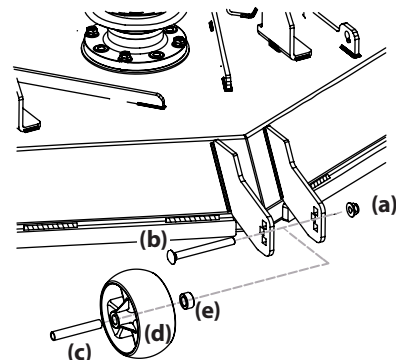

Figure 15
6. Remove the lock nut (a) securing one of the front gauge wheels to the deck. Remove the shoulder screw (b), tube spacer (c) and shoulder spacer (e) to remove the wheel (d). See Figure 15.